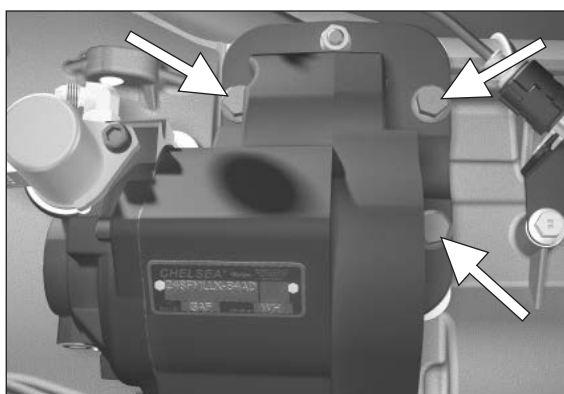

Figure 34
13. **249** - Next, install the three remaining hex cap screws in the remaining holes (**Fig. 34**).
249V - Next, install the two remaining locking nuts on the top and middle right side studs (**Fig. 34**).